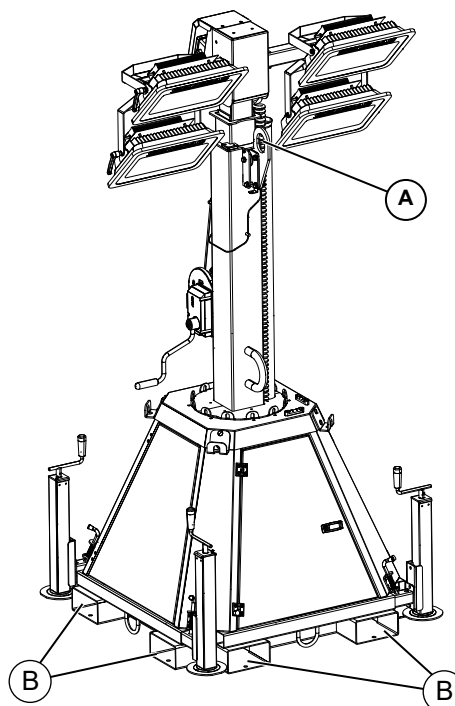

Figure 2-9. Lift Points
See Figure 2-9. The unit is equipped with lifting eye (A) and forklift pockets (B) for lifting the unit on and off a transporting vehicle.
5. Figure 2-9. To lift unit, use one of the following methods:
- Attach slings, chains, or hooks directly to central lift point (A). Verify the LED fixtures will not be damaged when lifting.
- Use a forklift. Approach forklift pockets (B) with care. Avoid approaching the unit at an angle, as this can permanently damage the forklift pockets, tires, or cabinet. Verify any obstructions are clear of the forklift tines before lifting.
See Figure 2-9. Tied-down straps, ropes, or chains may be passed through forklift pockets (B) or through tie down points (C).